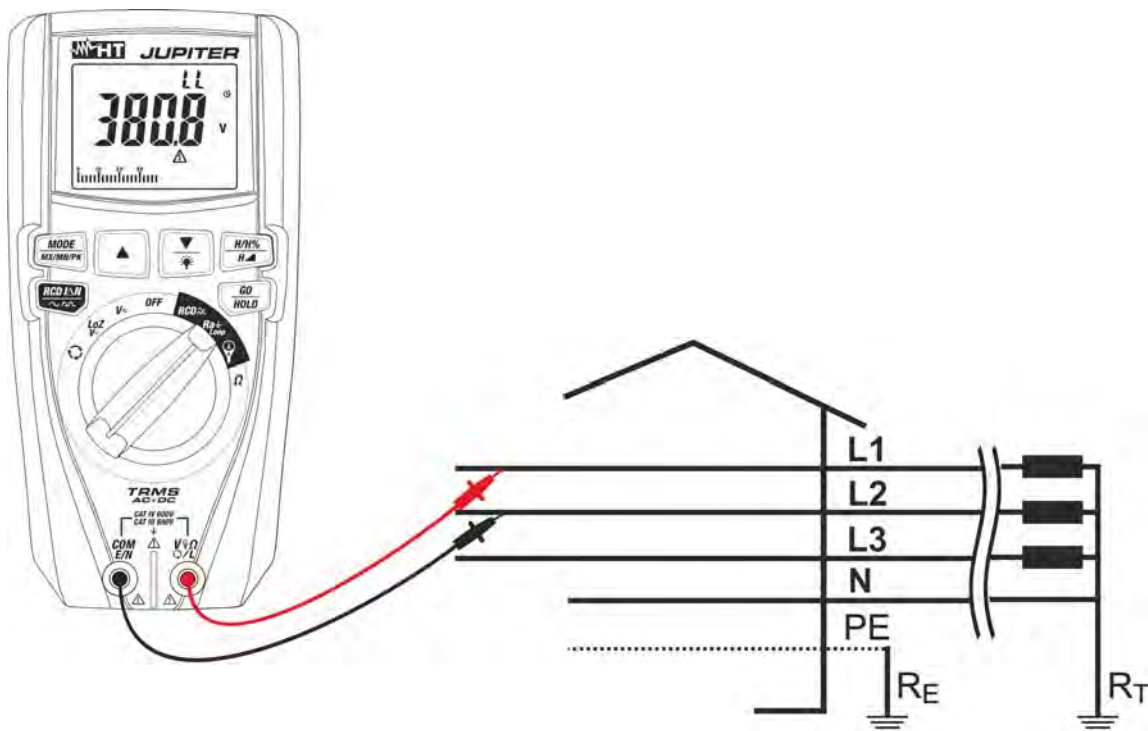

Fig. 27: Use of the instrument for measuring Loop L-L impedance with leads
9. **For Loop L-L measurements**, in case measuring leads are used, insert the red conductor into input terminal  $V_{\Omega} \text{ L}$  and the black conductor into input terminal **COM/E/N** and connect the instrument to the system to be tested (see Fig. 27). The value of phase-to-phase voltage is shown on the display